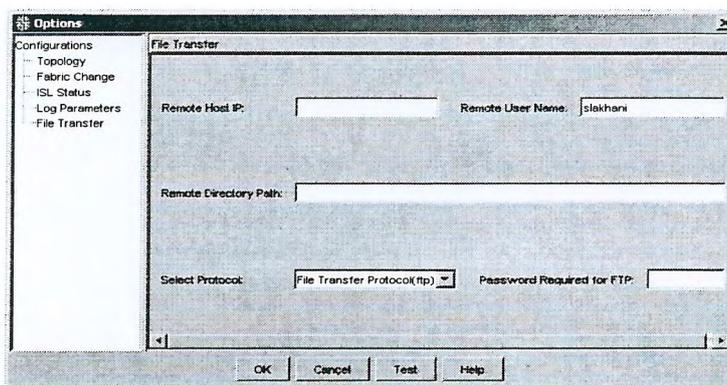

Figure 4-5 Options Window
1. From the File menu, select **Options...** The **Options** window opens, as shown in Figure 4-5.